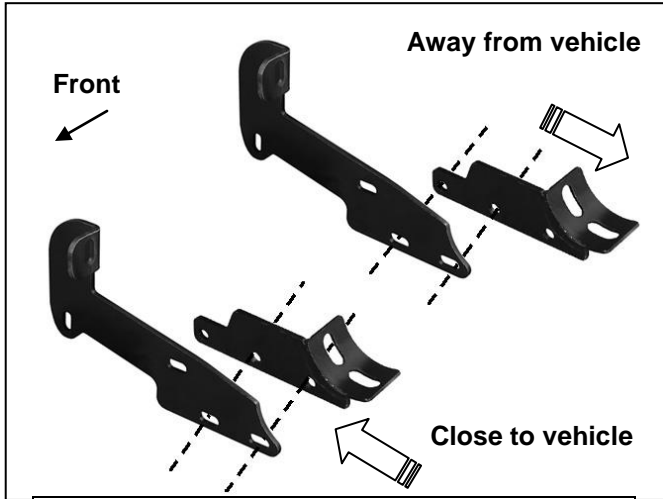

Fig 14A
12. Move to the rear mounting location in front of the driver side rear tire opening. Locate the large oval and the round holes in the inner body panel in front of the rear tire, **(Figure 13)**. Select (1) 10mm Double Bolt Plate and (1) 10mm Plastic Retainer, **(Figure 14A)**. Insert the Bolt Plate into the oval hole and up and out of the smaller round hole above it. Thread the Plastic Retainer onto the Bolt Plate over the round hole only, **(Figure 14B)**.